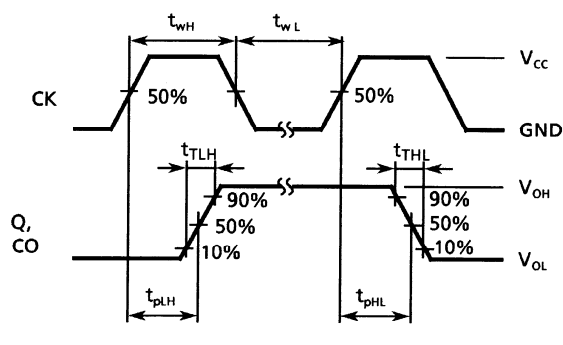

Figure 1
| Minimum pulse width(CK)                                   | $t_W$ (H)$t_W$ (L) | Figure 1                     | 2.0                 | —    | 75                     | ns   |
| Output transition time                                             | $t_{TLH}$$t_{THL}$ | Figure 1       | —   | 4    | 8   | ns   |
| Propagation delay time(CK-Q)                                   | $t_{PLH}$$t_{PHL}$ | Figure 1       | —   | 13   | 21  | ns   |
| Propagation delay time(CK-CO)[count mode]                  | $t_{PLH}$$t_{PHL}$ | Figure 1       | —   | 16   | 26  | ns   |
| Propagation delay time(CK-Q)                                  | t pLHt pHL | Figure 1       | 2.0                 | —   | 48   | 125 | —                   | 155 | ns   |
| Propagation delay time(CK-CO)[count mode]                 | t pLHt pHL | Figure 1       | 2.0                 | —   | 57   | 150 | —                   | 190 | ns   |